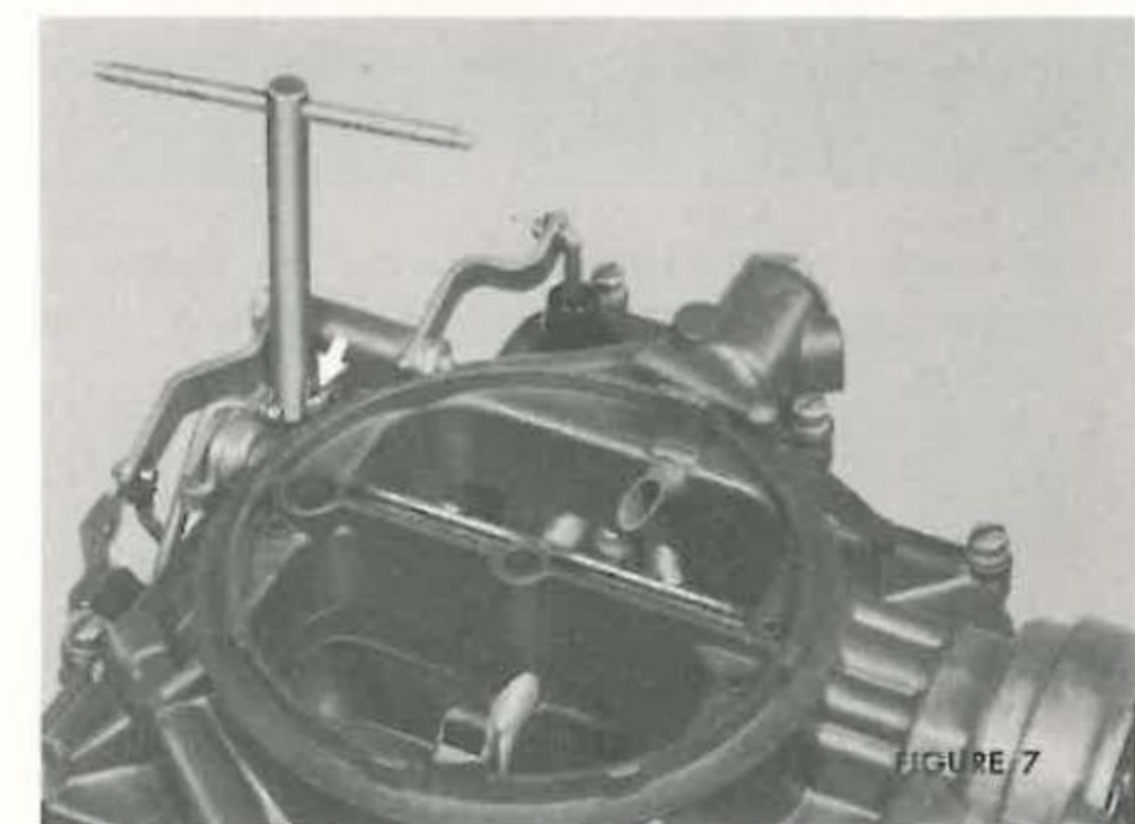

FIGURE 7
6. **Atmospheric Idle Vent Adjustment:** Insert a .040" gauge (Gauge J-6061) between the throttle valves and the primary bores of the throttle body on the sides opposite the idle adjusting needles. With the throttle valves closed against this wire gauge bend the atmospheric vent contact arm, using Tool J-5197, until it holds the atmospheric vent valve in the carburetor air horn open approximately $\frac{1}{64}$ ". "See arrow" Fig. 7. This adjustment assures proper vent opening at various throttle positions.